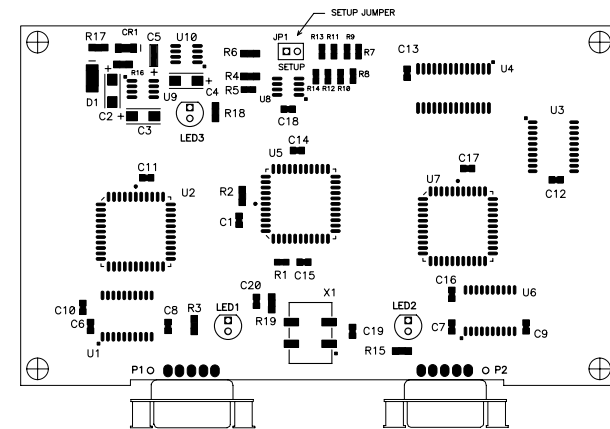

Figure 3.1 Setup Jumper Location
Remove the screws (4) on the bottom of the 232BRC with a Phillips screwdriver. Remove the top cover. Install the setup jumper marked JP1. See Figure 3.1 diagram of the PCBD. Power up the 232BRC with the setup jumper installed to put the unit in setup mode.